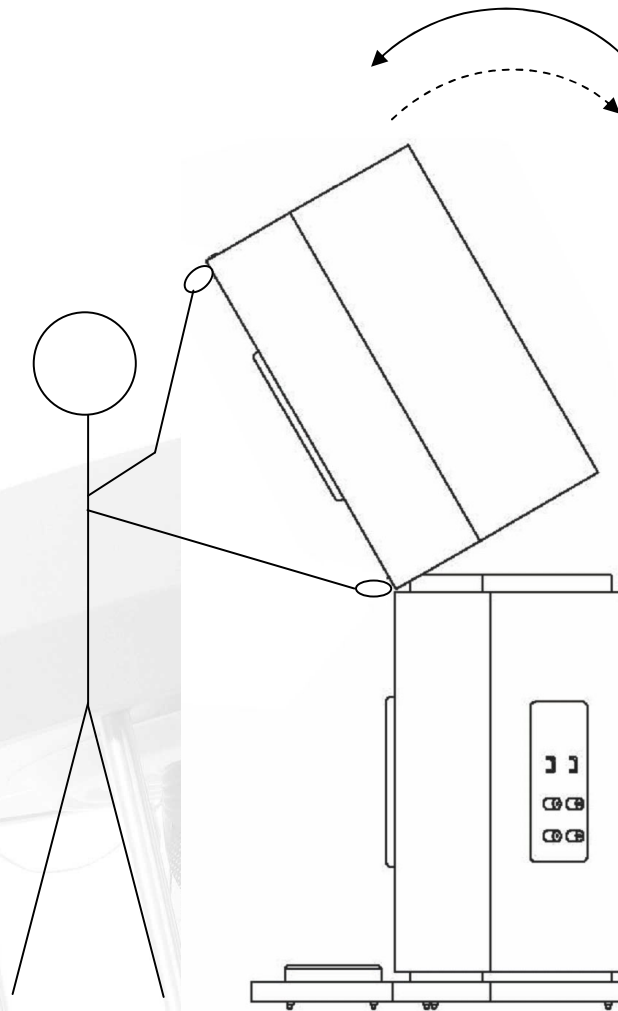

Figure 5. Fitting Upper Module and Connection Cables
4. The next operation must be carried out by two people. You will need 8 of the black inter-cabinet connecting cables ready to hand. Identify the left loudspeaker upper module. As with the lower module, you may find it easier to handle if you remove the grills. Place the module on top of the distance frame and ensure that it is properly seated. One person should stand at the front of the speaker and with their hands placed as shown in figure 5, carefully tilt the upper module forward over one edge sufficiently to allow the second person to fit the inter-cabinet connecting cables between the two modules. The upper module may be tilted forward on either edge. Choose the one that is most convenient. Take great care to ensure that it cannot slip forward whilst being tilted. The sockets are colour coded. Please ensure that all the cables are correctly connected.